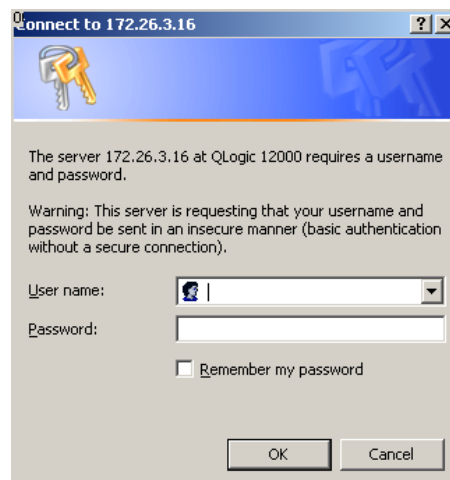

Figure 1-1 User Authentication
- If user authentication is enabled, the **User Authentication** window shown in Figure 1-1 is displayed: